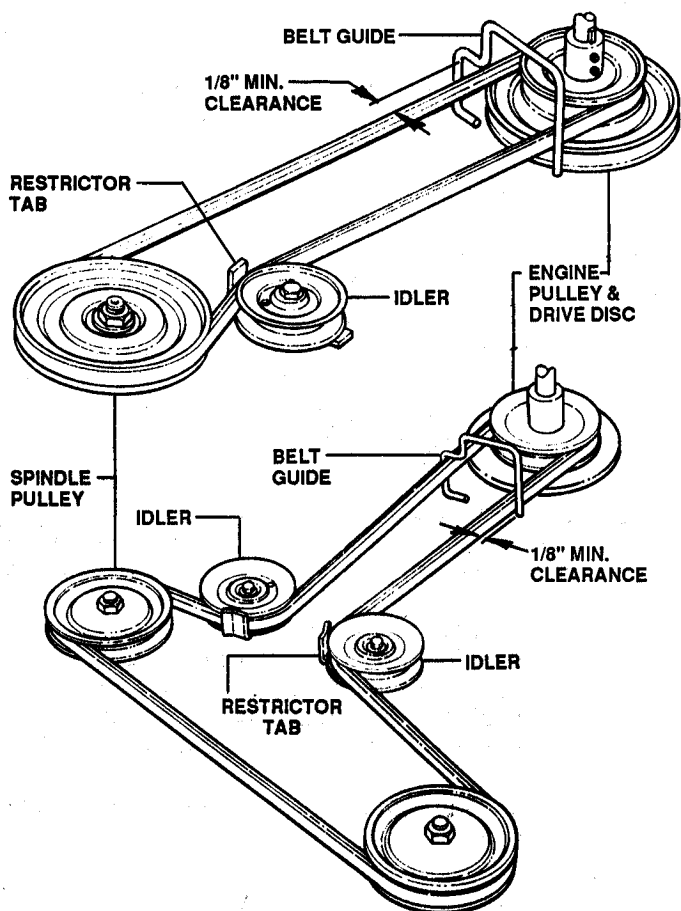

FIGURE 3.4
- H. Position belt between restrictor and around grooves of idler pulley. Lock restriction tab in position, then tighten idler pulley bolts. See Figure 3.4.